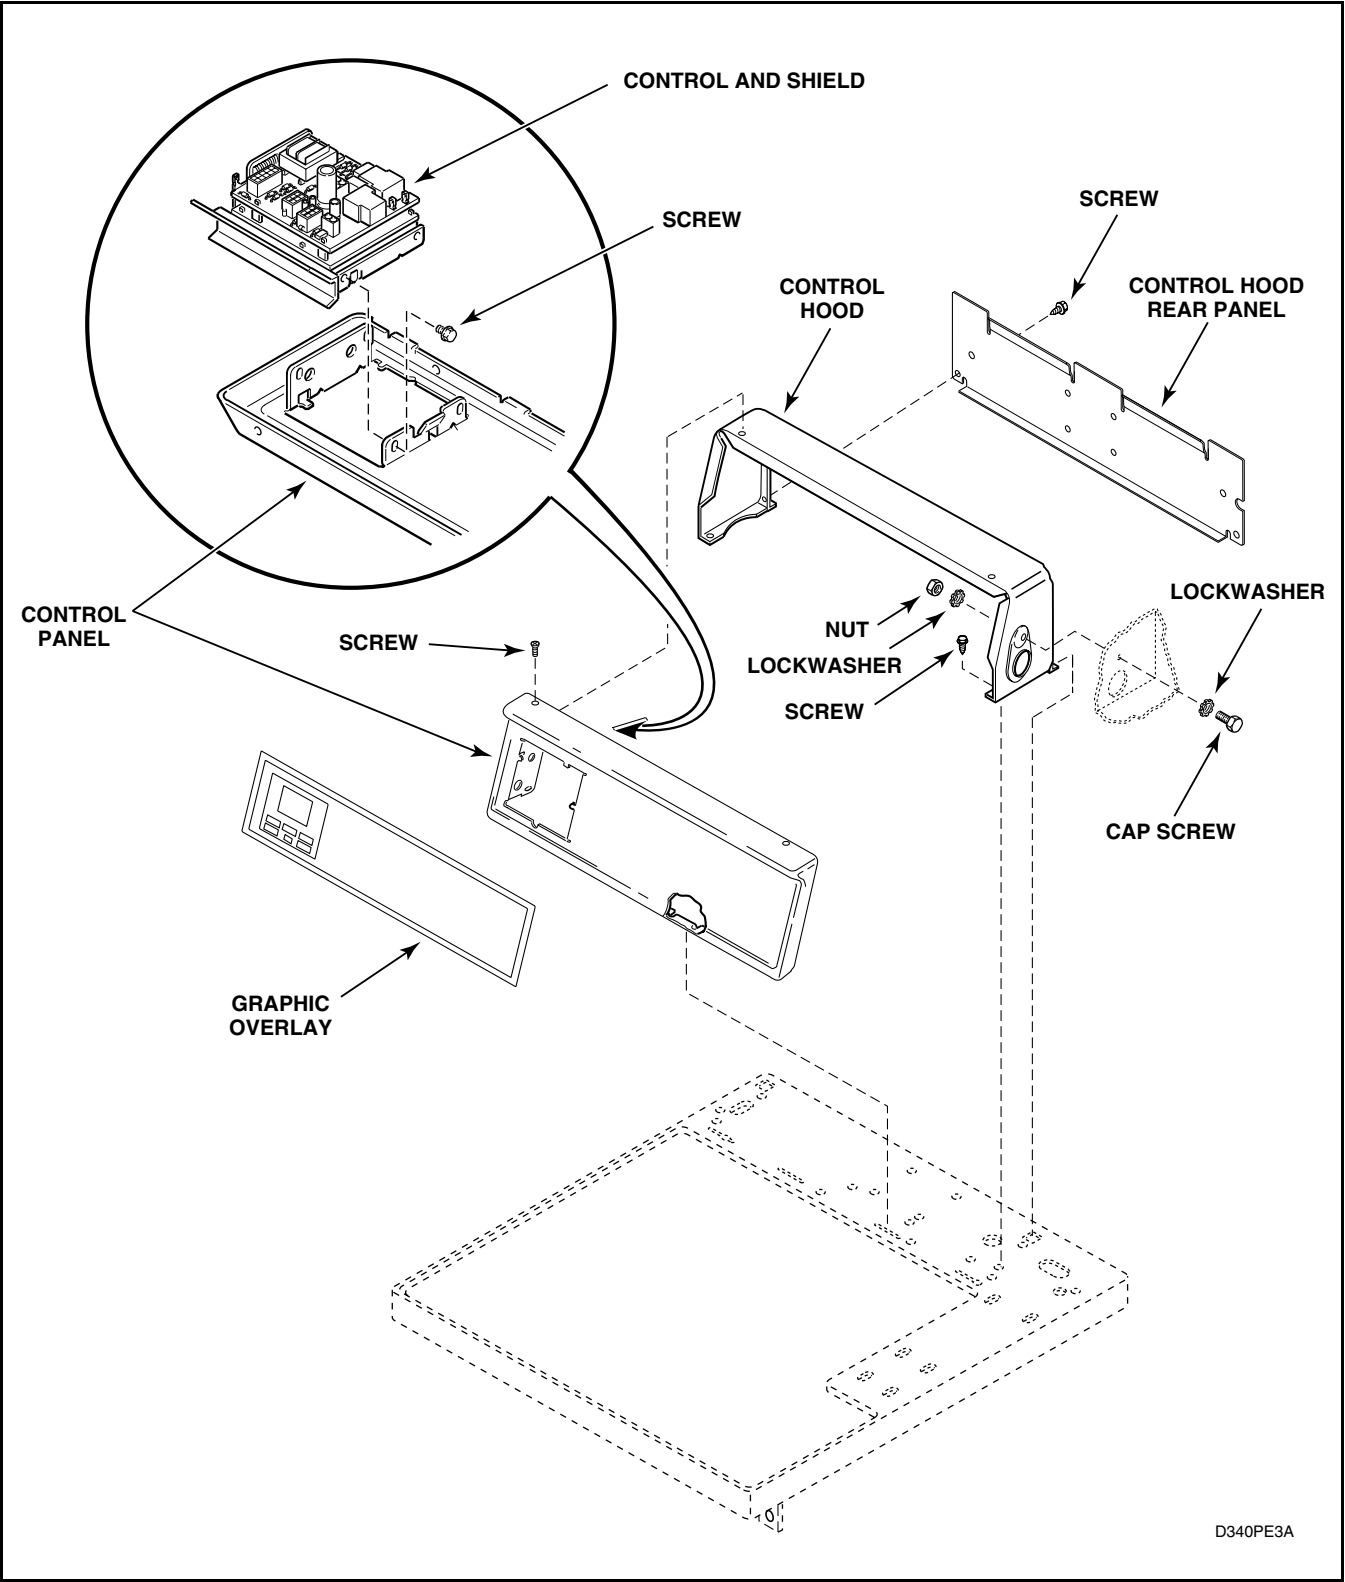

Figure 8
Refer to *Figure 8*
- h. Remove nut, lockwasher and screw holding meter case to right end of control hood. Refer to *Figure 8*.